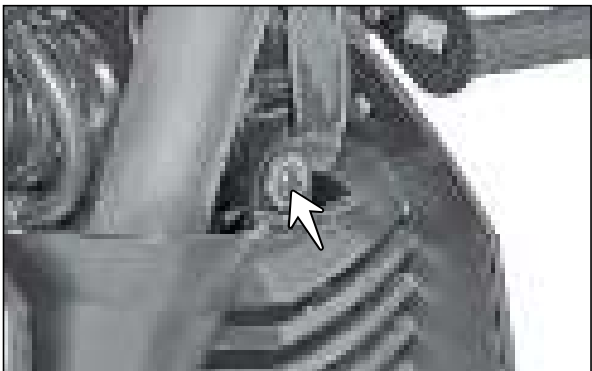

Fig. 3.33
- Remove the CRR pan head screw (M6x20 - 1 No.) along with plain washer from the top mounting of engine guard. (Fig. 3.33)